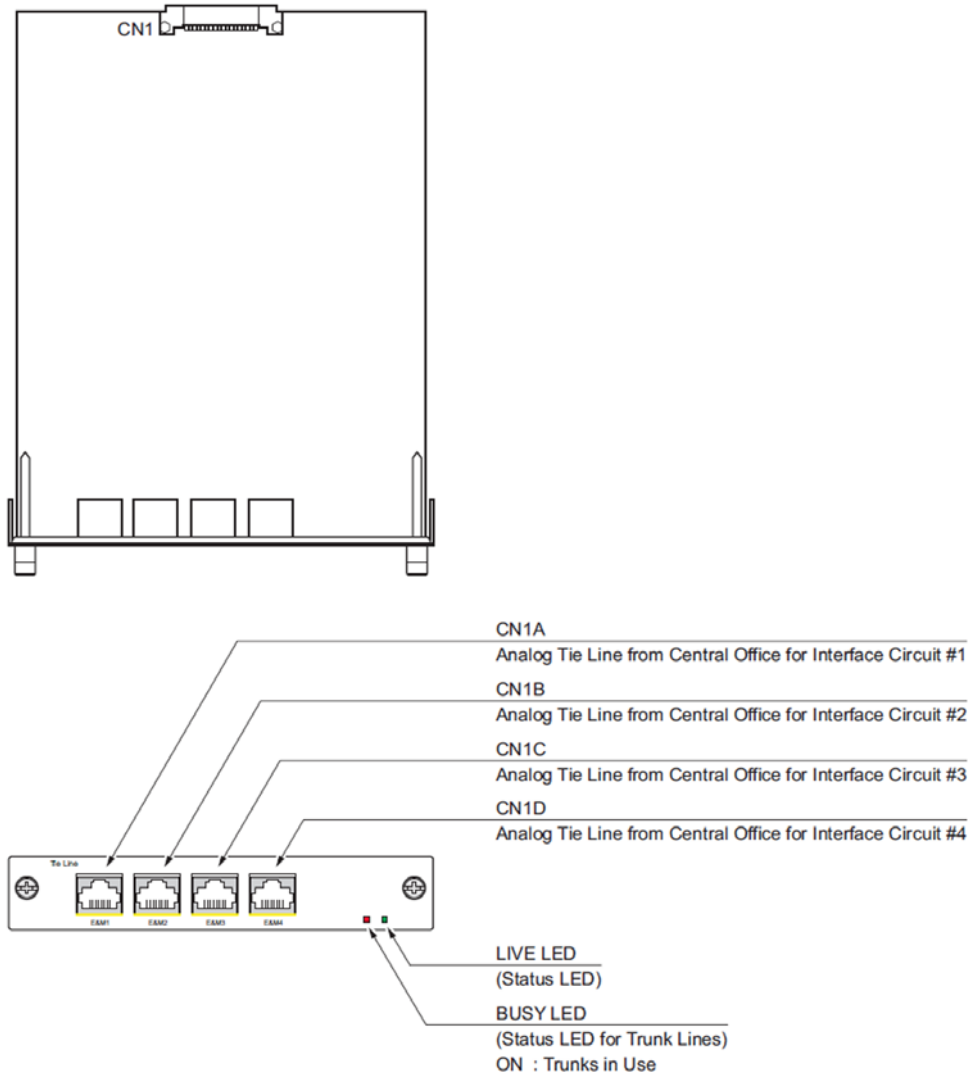

Figure 4-22 GCD-4ODTB Blade
1. Set the straps for either the 2-wire or 4-wire. Refer to Figure 4-22 GCD-4ODTB Blade on page 4-80.
LED indications for the **GCD-4ODTB** are listed in Table 4-45 GCD-4ODTB LED Indications. Each LED is listed with its associated function and LED and Operational status. Refer to Figure 4-22 GCD-4ODTB Blade on page 4-80 for the location of the LEDs on the blade.
Table 4-46 GCD-4ODTB RJ-61 Cable Connector Pin-Outs on page 4-83 shows the pin-outs for the RJ-61 connector. Refer to Figure 4-22 GCD-4ODTB Blade on page 4-80 for an illustration showing the location of the connectors on the ODT blade.